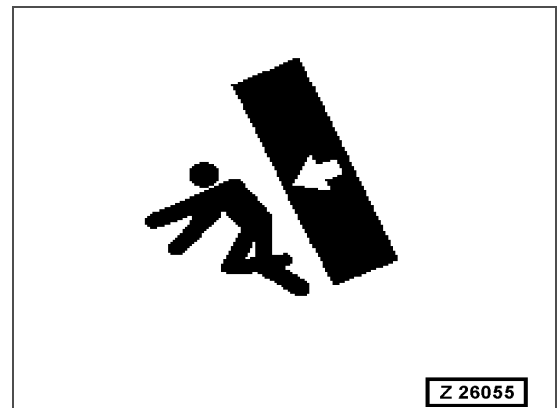

Fig. 2-41
- Place attachments that have been removed from the machine in a stable condition so that they do not fall (Fig. 2-41). And take steps to prevent unauthorized persons from entering the storage area.